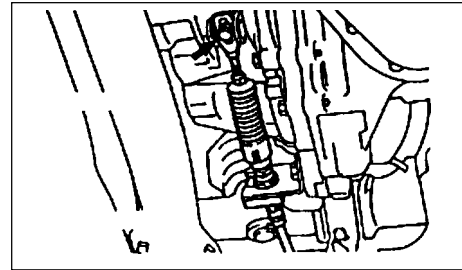

Figure 7-6
9. Put shift lever to "N" position, meanwhile, adjust the shift fork in neutral position. Connect shift cable with bracket and fix by fastening bolt. The tightening torque is 6.9~13.7 N.m (See figure 7-6).